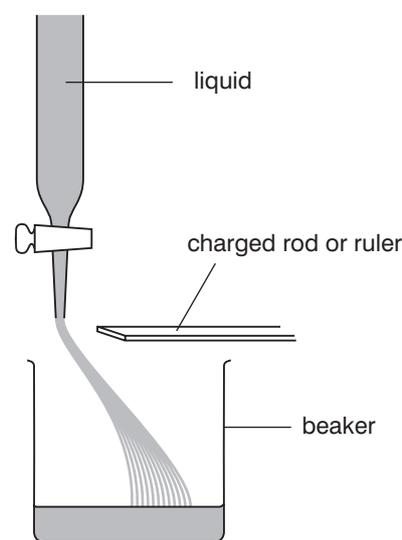

Figure 1 Deflecting jets of liquids
- 4 Bring the ruler towards the jet *but do not let them touch* (see Figure 1). Observe what happens. Record how much, if at all, the jet of liquid is deflected, and what this tells you about the structure of the molecule. (Note that the charged rod can set up *induced* dipoles in the molecules of the liquid and lead to small deflections with molecules which possess no *permanent* dipole. So even molecules with no permanent dipole can give small deflections.)